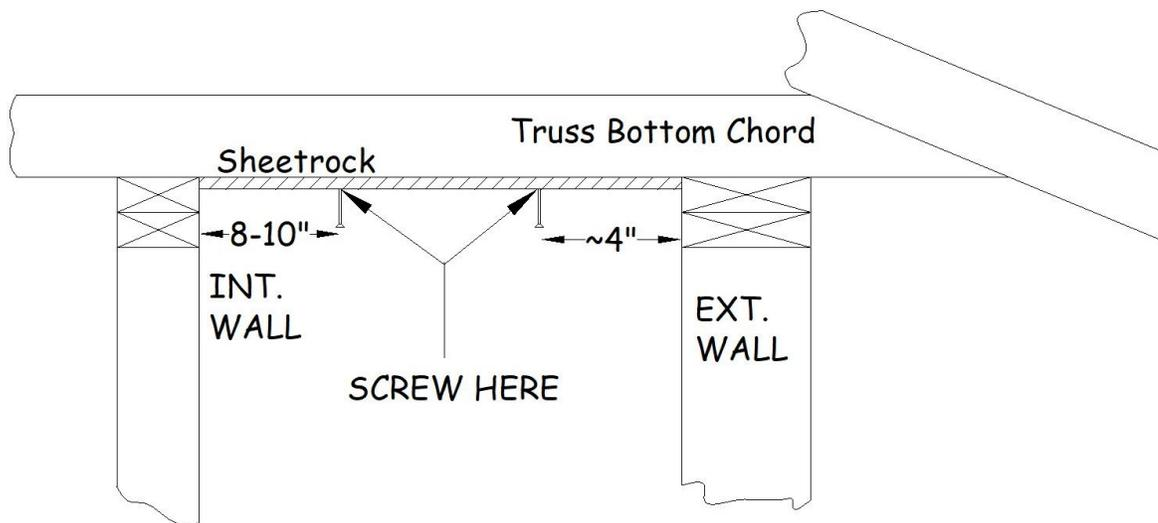

Figure 13-2. Screw Locations for Ceiling Sheetrock.
7. When fastening sheetrock to trusses that cross interior or exterior walls, hold the screws **8"-10"** away from interior walls, and about 4" away from exterior walls (see Figure 13-2).